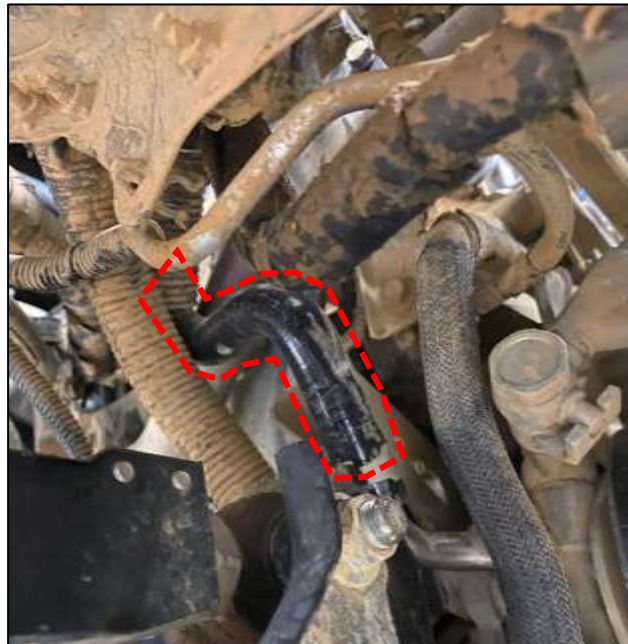

Figure 21
34. Locate the new Power Steering Hose, install it where the OE Power Steering Hose was removed in *Step 11*. Use the OE Hose Clamps to secure it to the vehicle. *Figure 21.*